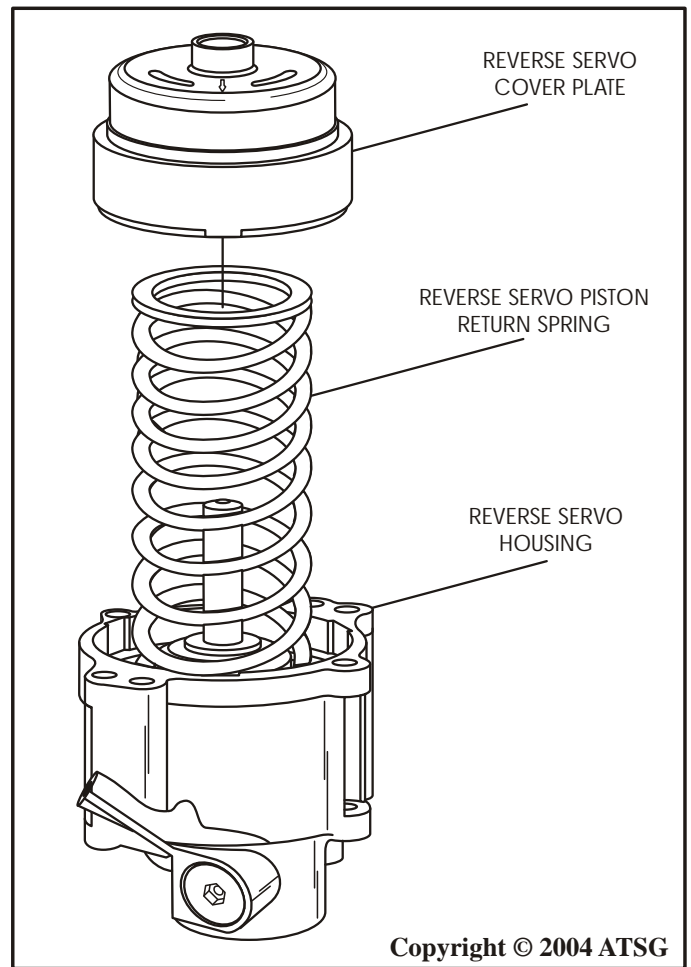

Figure 117
11. Install the reverse servo cover plate over the return spring, compress the return spring with the cover plate and rotate the tabs into position in the slot, as shown in Figure 117.